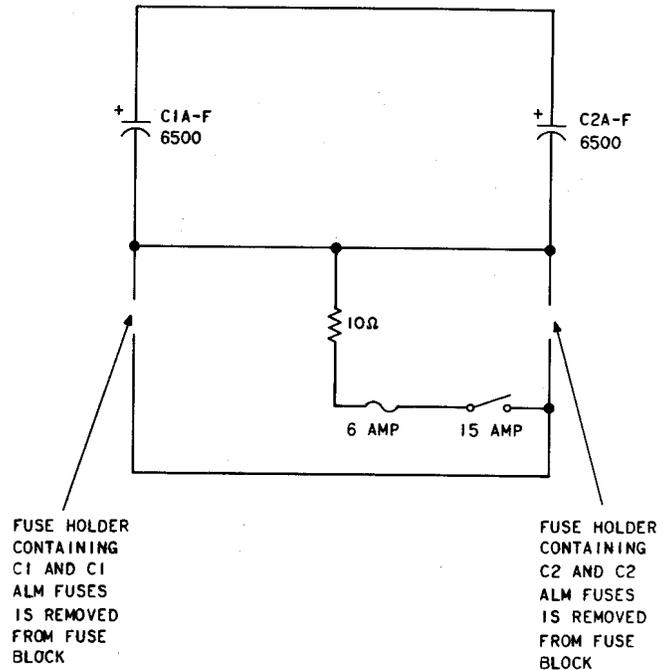

Fig. 2—Resistor Fuse and Switch Combination Connected to the Rectifier
- (4) Connect the resistor, fuse, and switch combination across the BAT and load terminals on the back of the C1 and C1 ALM, and C2 and C2 ALM fuse blocks in accordance with Fig. 2.
- (5) Operate the switch of the resistor, fuse, and switch combination to the ON position.
- (6) When the VM voltmeter indicates approximately battery or battery plus end cells volt-